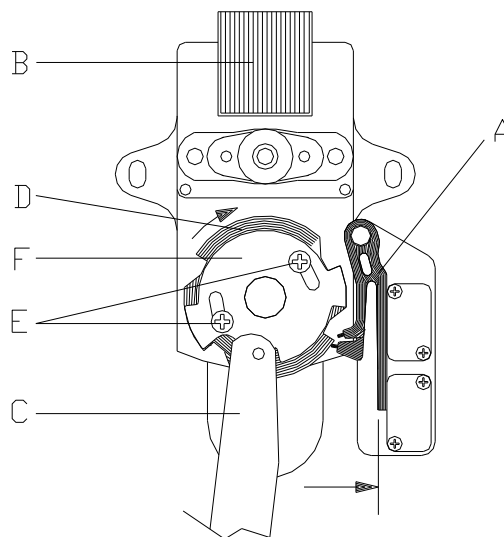

FIG.5.3 – VEND MOTOR
- 3) Enter the board-programming mode (refer to the programming manual), using “Test” function, start the motor of the column to be converted. This will cause the rotation of the cam, which will be rotated until the link assembly (**C**) connected to the cam (**D**) will be in its lower position showing the two mounting screws (**E**) the cam cover (rif. Fig. 5.3).